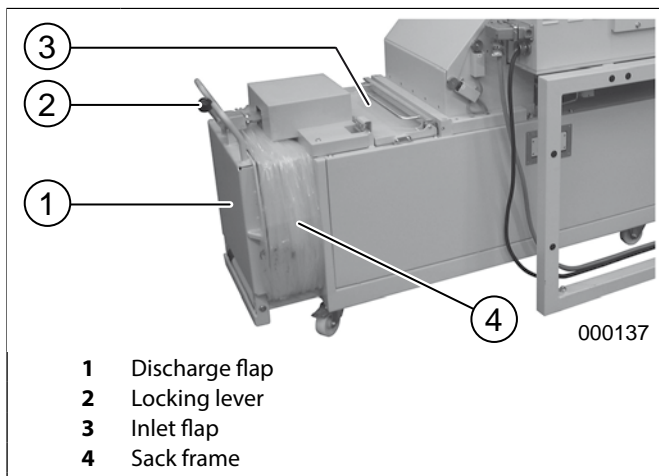

fig. 18 Opening the discharge flap
If the key is pressed and held (for at least 2 seconds), the baling ram travels a short distance in reverse and the locking lever (fig. 18/2) is advanced a short distance (pressure relief at the discharge flap).
The discharge flap (fig. 18/1) can now be opened. This is necessary when the baler is holding the bale in the compacted condition.
1. Open the inlet flap (fig. 18/3).
6. Close the inlet flap (fig. 18/3).
Opening the discharge flap (fig. 18/1):
1. Press and hold the "Open Discharge Flap" key (fig. 13/2) for at least 2 seconds. The baling ram travels a short distance in reverse, and the locking lever (fig. 18/2) travels a short distance forward in order to relieve pressure at the discharge flap.
2. Slightly lift the locking lever (35).
1. Close the inlet flap (fig. 18/3).
2. Open the discharge flap (fig. 18/1).
4. Remove the sack from the sack frame (fig. 18/4).
5. Close the discharge flap (fig. 18/1), as well as the inlet flap (fig. 18/3), if the shredder is to be used.